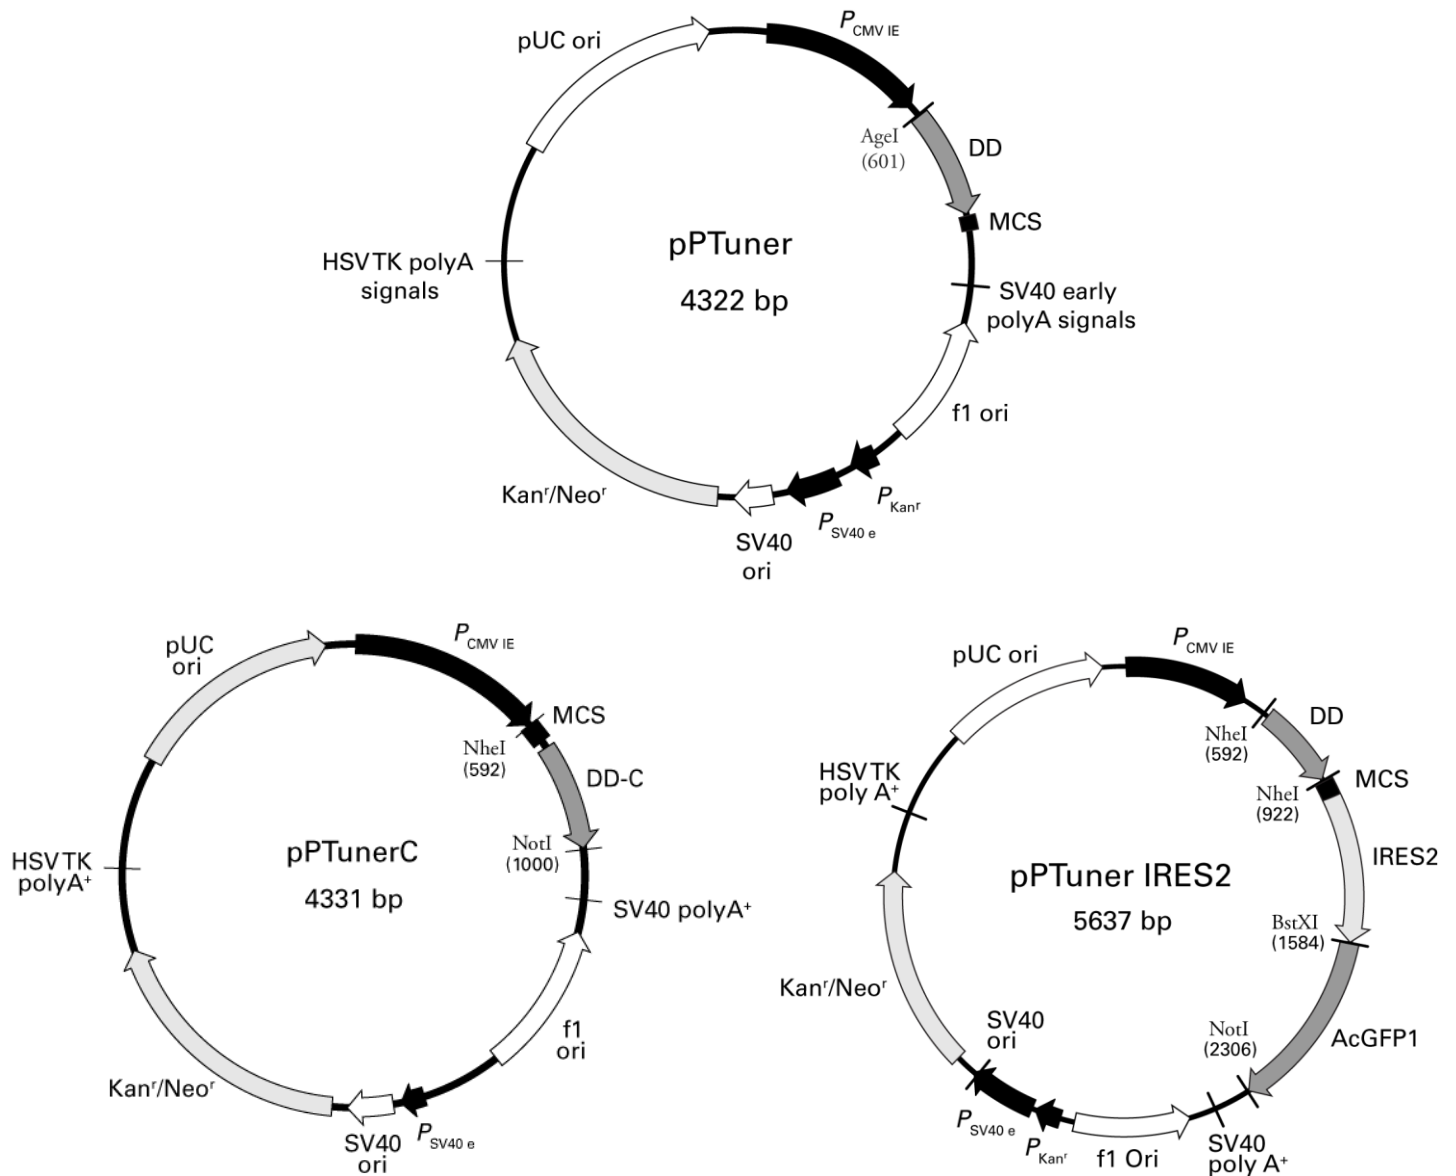

Figure 4. pPTuner, pPTunerC, and pPTuner IRES2 Vector maps.
The ProteoTuner Shield Systems N and C provide plasmid-based vectors for adding a DD-tag to your protein of interest. Each vector includes either a Living Colors Fluorescent Protein or an antibiotic selection marker for transfection, or both (Figures 4–7).
- **Selection by fluorescent protein:** The ProteoTuner Shield System N (w/ AcGFP1) [Cat. No. 632168—see Figure 4] contains an internal ribosome entry sequence (IRES) following the DD-tagged gene of interest. This allows AcGFP1 to be translated independently of the DD-tagged protein. AcGFP1 expression is **not** regulated by the stabilizing ligand, Shield1. Therefore, detection of green fluorescence in a cell by either fluorescence microscopy or flow cytometry analysis indicates that the cell has been transfected and is expressing your DD-tagged protein of interest.
NOTE: For optimal expression of a fluorescent protein downstream of the IRES in pPTuner IRES2 Vector (Figure 4), the DD-tagged gene of interest upstream of the IRES should be ≤ 2.5 kb.